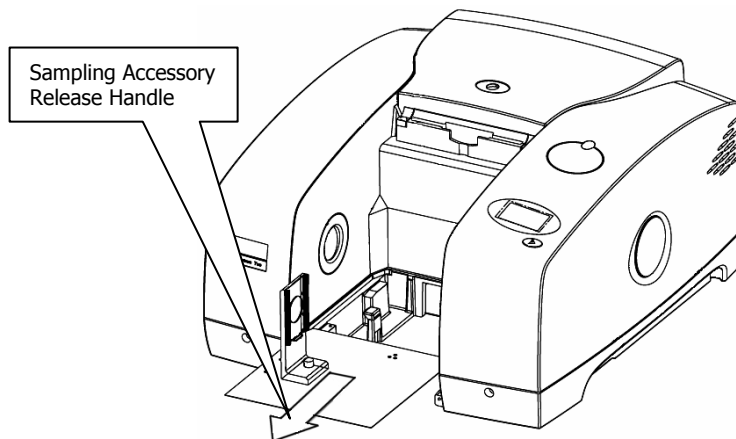

Figure 31 Removing the sampling accessory
5. Remove the fitted sampling accessory, by pulling the blue release handle towards you and sliding the accessory towards you (Figure 31).